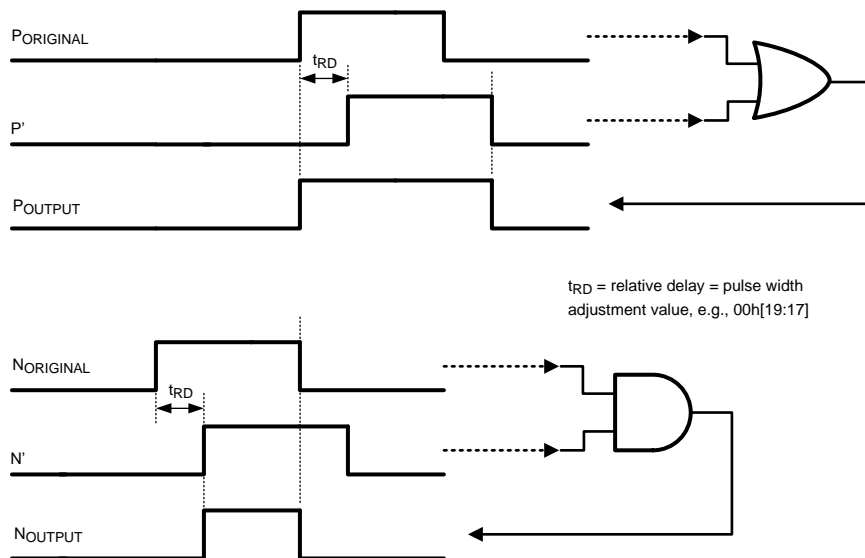

Figure 11. Pulse Width Adjustment (00h[21:20] = “01”)
Figure 11 illustrates the Pulse Width Adjust operation in further detail. In this example, 00h[21:20] = “01”. Internally both original P and original N have an alternative phase version that lags their original phase version. Alternative phase is set by the value in 00h[19:17]. The P output is the OR’d result of the original P with the internally delayed P’, while the N output is the AND’d result of the original N with the internally delayed N’. The outcome is: (1) the N output is delayed, while the P output remains undelayed; (2) the P output pulse width has increased, while the N output pulse width has decreased.